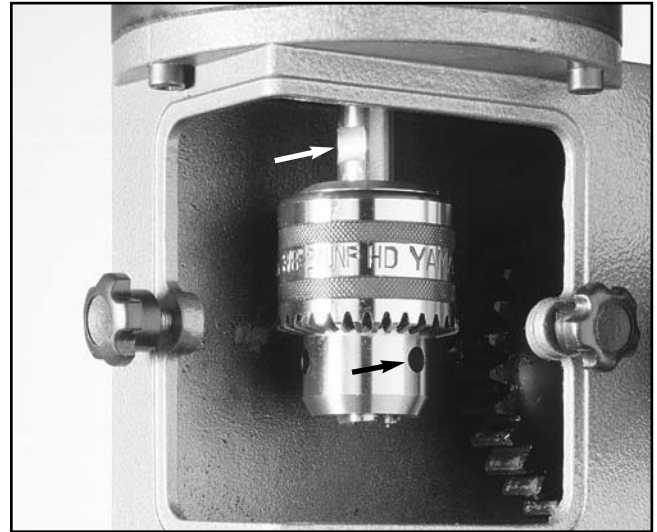

Figure 10.
2. Hold the motor shaft in place with a 10mm wrench. Insert a phillips screwdriver into the chuck key hole and unscrew the chuck in a clockwise direction. **Figure 10.**